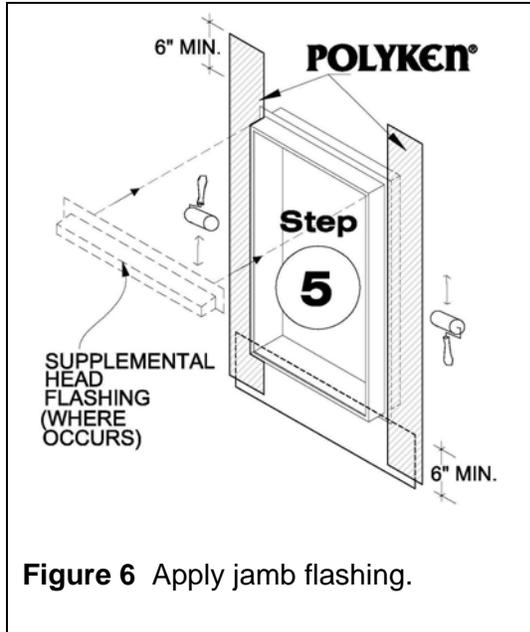

Figure 6 Apply jamb flashing.
Step 5. Precut Polyken® or Nashua® jamb flashing tape to extend a minimum of 6" above and below the rough opening. Peel off release liner and adhere Polyken® or Nashua® jamb flashing over the jamb fins and over top of Polyken® or Nashua® sill flashing (see Figure 6).